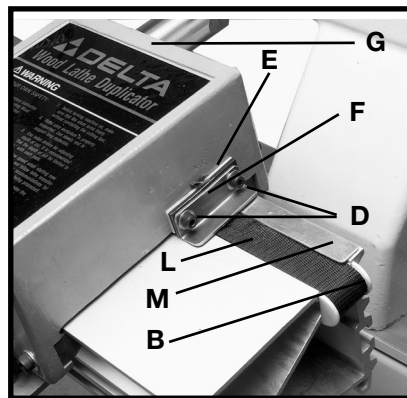
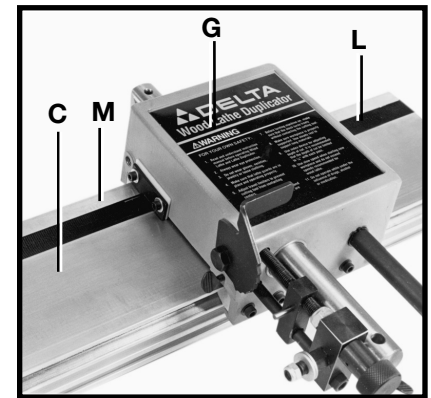

Fig. 18
Fig. 19
6. Line up holes in wiper (E) Fig. 18, retainer plate (F), and angle bracket with the two holes on the side of the carriage (G) and fasten the belt (L) to the carriage with the two hex socket head screws and flat washers (D) removed earlier.
7. Attach belt (L) Fig. 18 under the lip (M) of the duplicator rail and around the guide (B). Pass belt (L) inside and through duplicator rail (C) Fig. 19 and out the other end of the duplicator rail.
8. **IMPORTANT:** Make certain belt is not twisted inside duplicator rail. Wrap the loose end of the belt (L) Fig. 19 around the guide on the left side of the rail (C) and under the lip (M) of the guide rail. Fasten the belt (L) to the side of the carriage (G) by repeating **STEPS 5 and 6**.